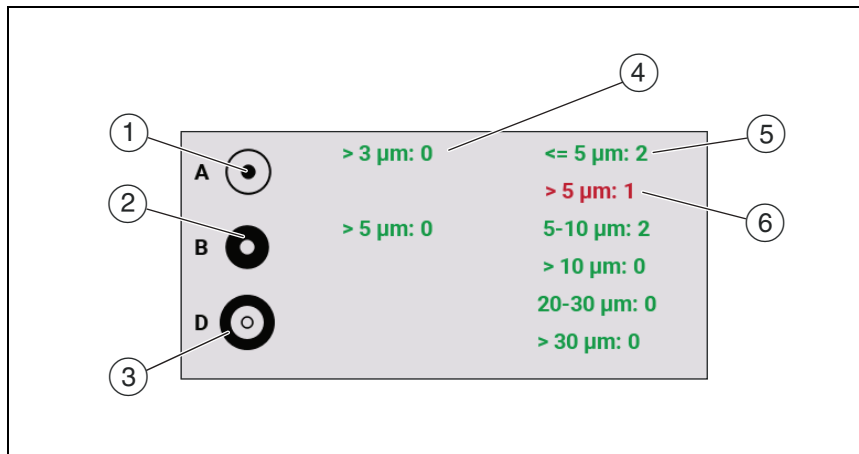

Figure 51. Defects Tab (Single Fiber shown)
- ③ Tap the **DEFECTS** tab to see more details about the defects. See Figure 51.
The **DEFECTS** tab shows the number and size of the **Scratches** and **Defects** such as a particle of dirt, a chip, or a pit located in each zone. See Figure 51.